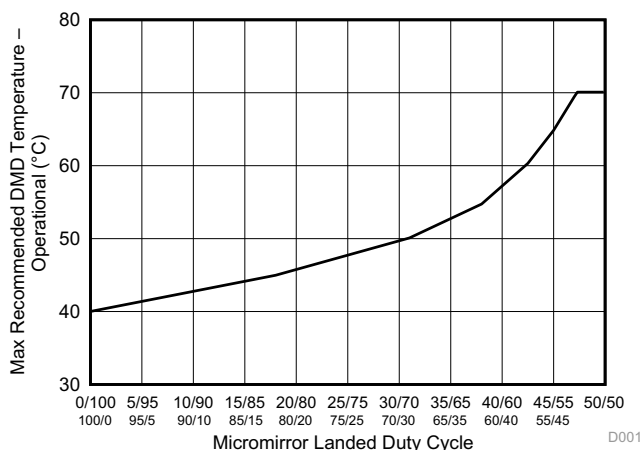

Figure 1. Max Recommended DMD Temperature – Derating Curve
(14) Per Figure 1, the maximum operational case temperature should be derated based on the micromirror landed duty cycle that the DMD experiences in the end application. Refer to Micromirror Landed-on/Landed-Off Duty Cycle for a definition of micromirror landed duty cycle.
(15) Long-term is defined as the average over the usable life.